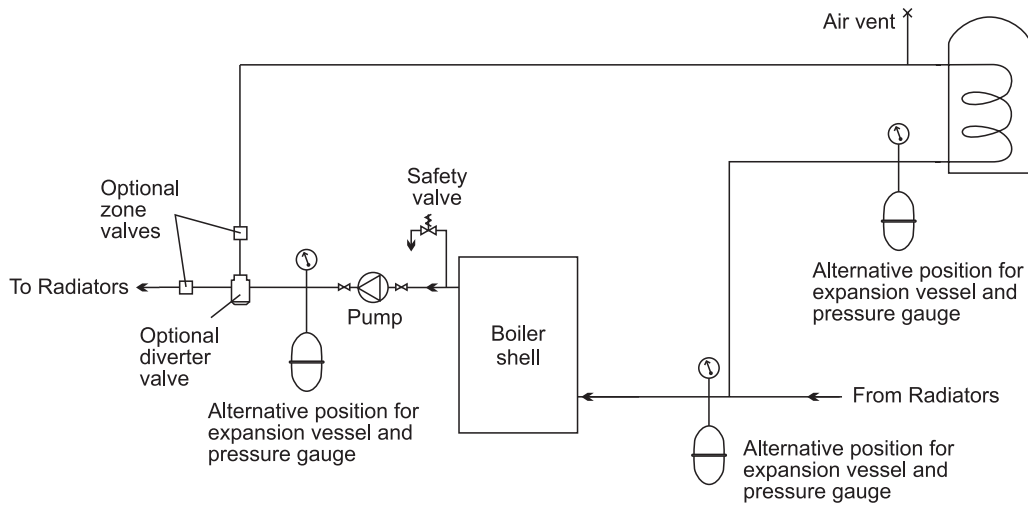

Fig. 13 - Sealed system
See Fig. 13
- 3 The expansion vessel can be fitted in either the return or flow pipework in any of the recommended positions as shown in Fig. 13. To reduce the operating temperature of the expansion vessel diaphragm, position it below the pipe to which it is connected. The expansion vessel may be positioned away from the system, providing the connecting pipe is not less than 13 mm diameter.